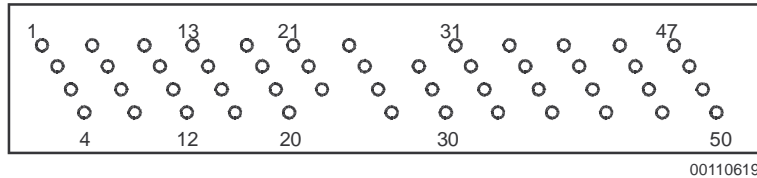

Figure 5 3m Flat Cable Connector
- c. 3M flat cable connector. An exception to this is a connector supplied by 3M. It displays 50 pins, 4 in a row, at an angle as shown in Figure 5.